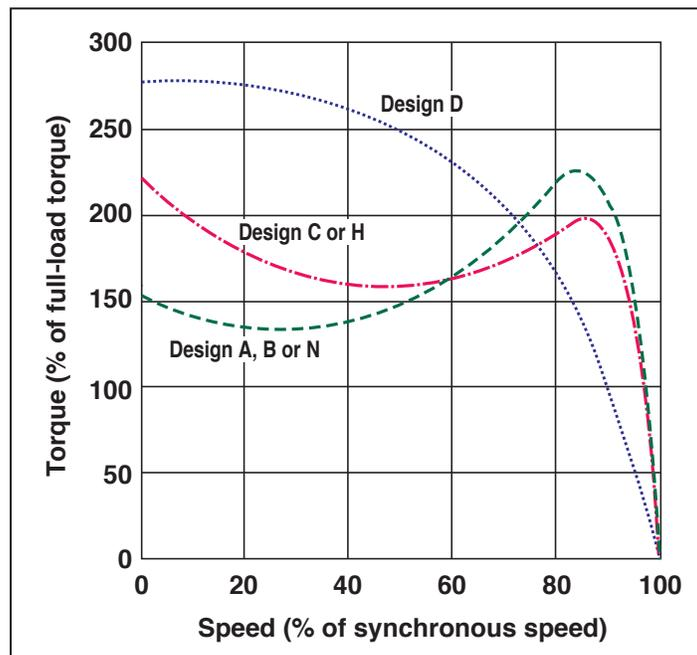

Figure B3. Speed/torque curves for NEMA design motors.
- **Design letter (DES, NEMA DESIGN, DESIGN).** NEMA Std. MG 1, 1.19 defines four motor designs (A, B, C and D) in terms of torque and current characteristics (see Tables B2 and B3 and Figure B3). Most motors are Design B because of their comparatively high efficiency and torque characteristics. Design A motors may be more efficient but are used infrequently because their relatively high starting current can cause nuisance tripping of motor protection circuitry. Design A motors may also require larger than standard-size starters.